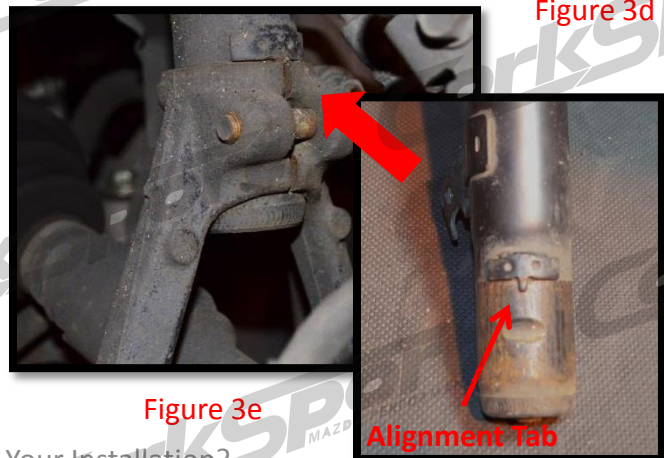

Figure 3e
- g) Generously lubricate the strut and knuckle with penetrating fluid, and push the bracket up onto the strut, as shown in **Figure 3e** to the right.
- h) Install the 14mm pinch bolt into the bracket, and torque to 45ft-Lbs (**Figure 3e**).